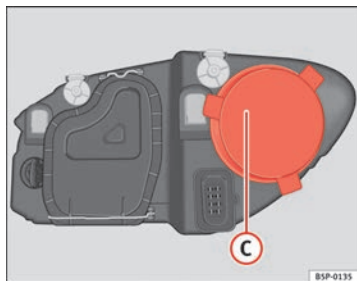

Fig. 188 Main beam headlights
- Remove the cover ⇒ fig. 188 C by pulling on this.